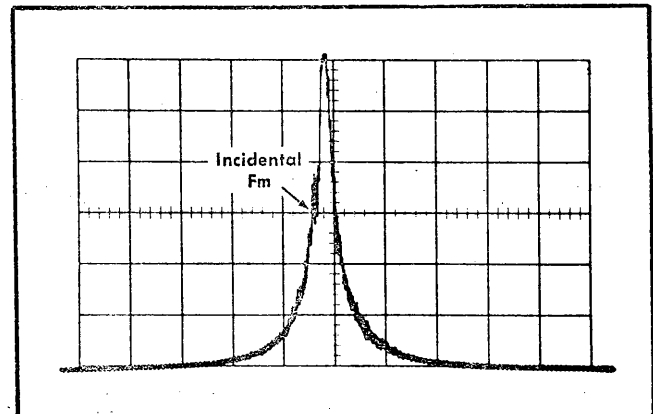

Fig. 5-6. Typical display showing incidental frequency modulation. Measure the horizontal displacement of the signal at the most vertical slope of the signal.
f. Check the amount of signal frequency modulation at the steepest slope of the signal response (see Fig. 5-6). Incidental FM is displayed as short term horizontal jitter. Disregard long term horizontal drift. Must not exceed 2 mm ( $\leq 200$  MHz).